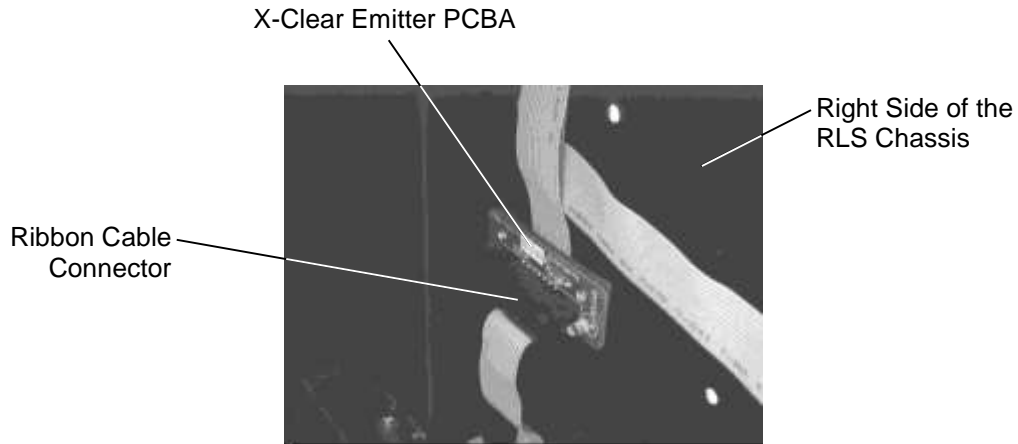

Figure 7-34 X-Clear Emitter PCBA shown with Cover Removed
3. Disconnect the ribbon cable from the X-Clear Emitter PCBA. See Figure 7-34.
2. Reconnect the ribbon cable to the X-Clear Emitter PCBA. See Figure 7-34.